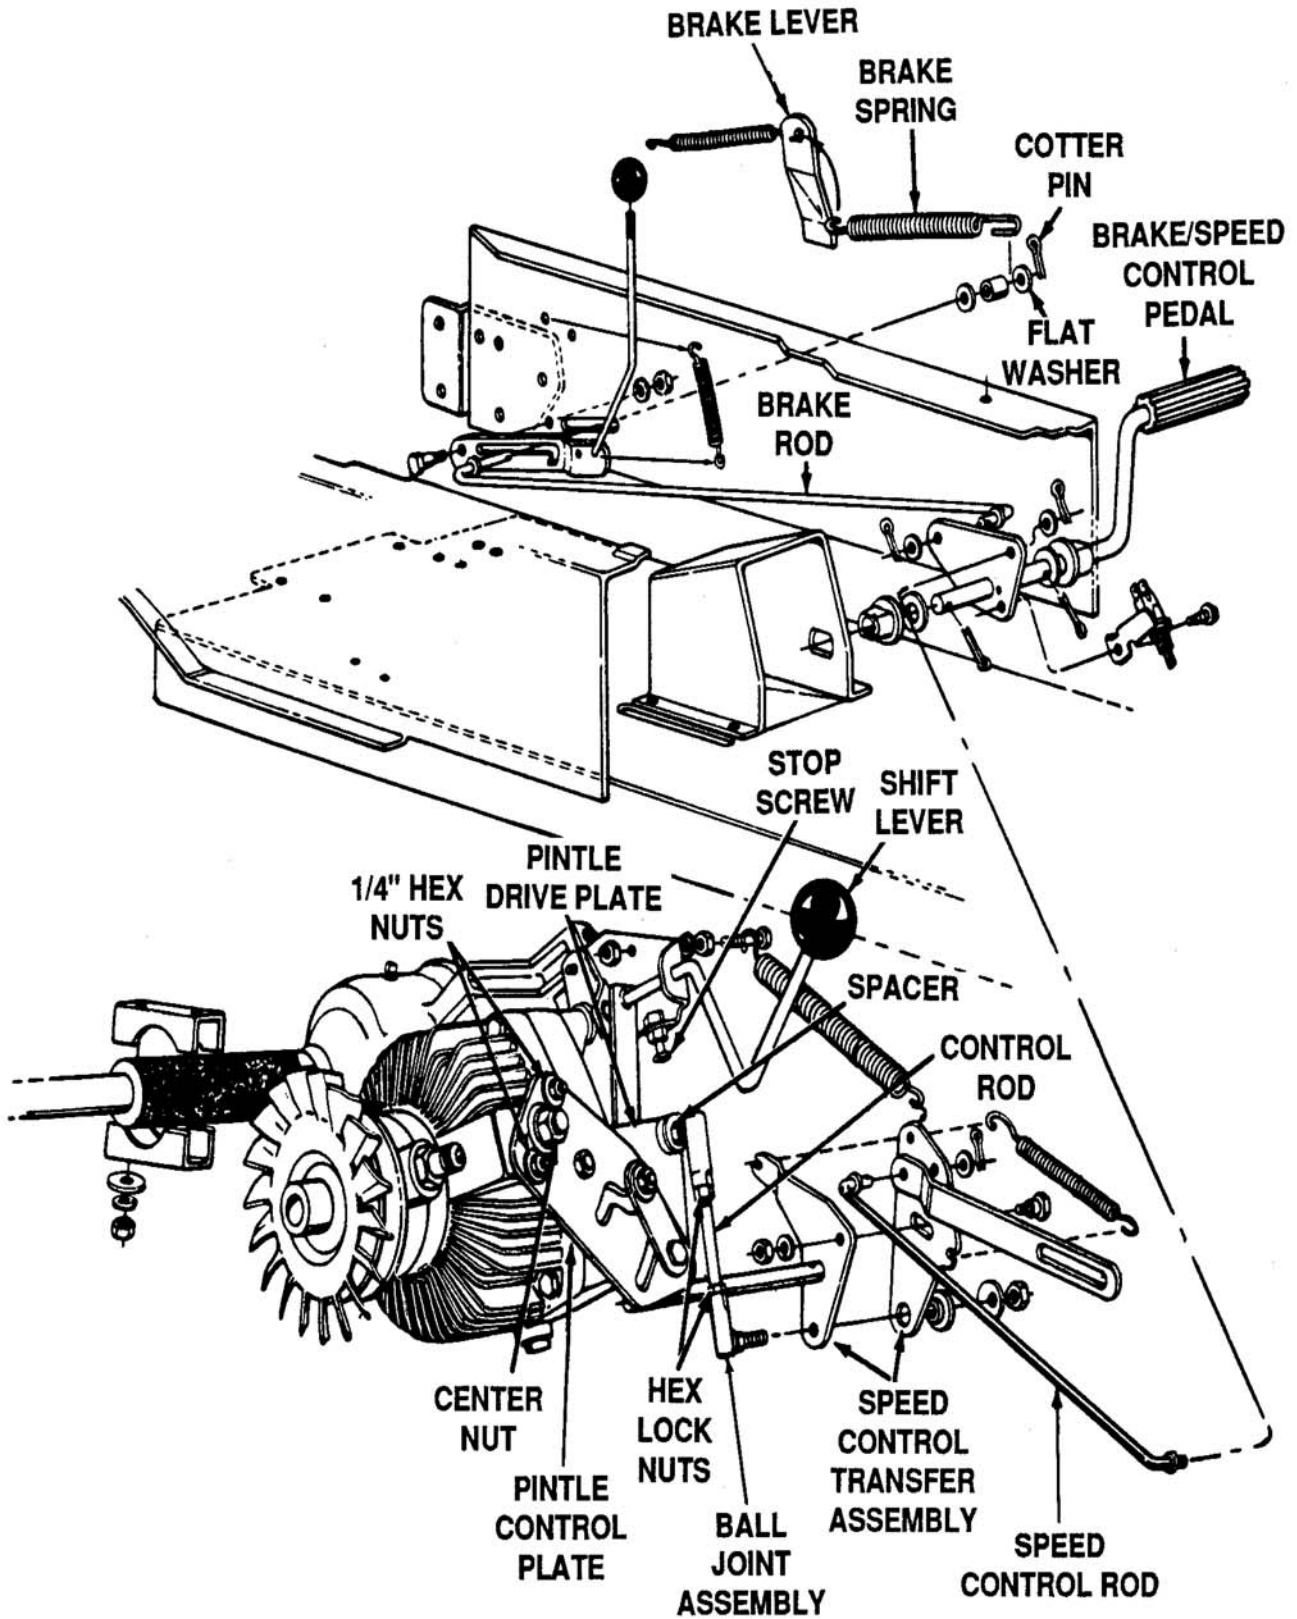

Figure 4-63. Adjusting Eaton Hydrostatic Control
1. Disconnect the control rod from the speed control transfer assembly by removing the hex nut, lock washer and shoulder spacer from the ball joint assembly on the end of the control rod. See Figure 4-63.